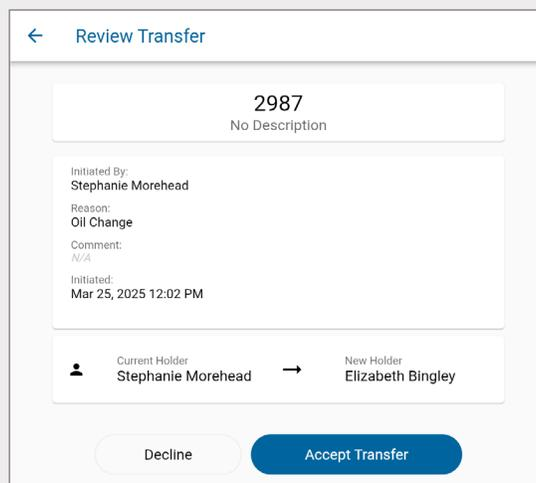

Fig. 145 – Review Transfer screen – incoming transfer
2. If the transfer is pending, select to **Accept** or **Decline** the transfer, as shown in Fig. 145.